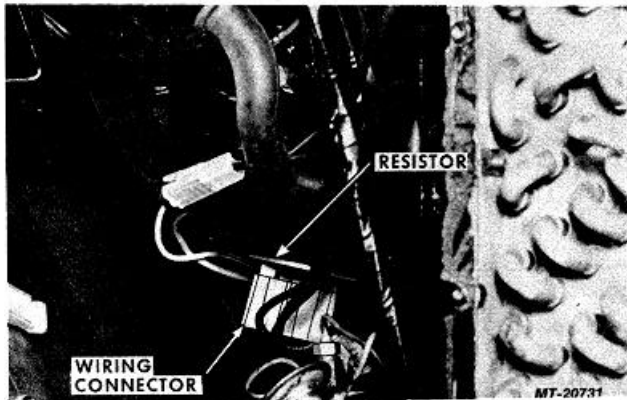

Fig. 39 Blower Resistor Removal
3. Remove resistor mounting screws and remove resistor from blower housing (Fig. 39).